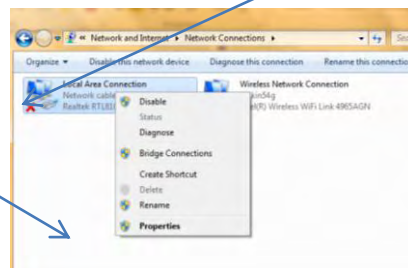

Fig 3
- d. When the Change adapter settings opens right click on “**Local Area Connection**” and click on “**Properties**” from the pop up menu. (Fig 3)